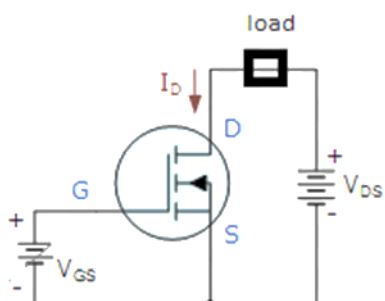

Figure 10: Circuit for plotting the I_{DS} vs V_{GS} that is, transfer characteristics of n-channel MOSFET (IRF540)
1. Measure the actual value of the drain resistor (as the load of Fig. 10).
3. Connect the circuit and connect the milliammeter as shown in Fig. 10.